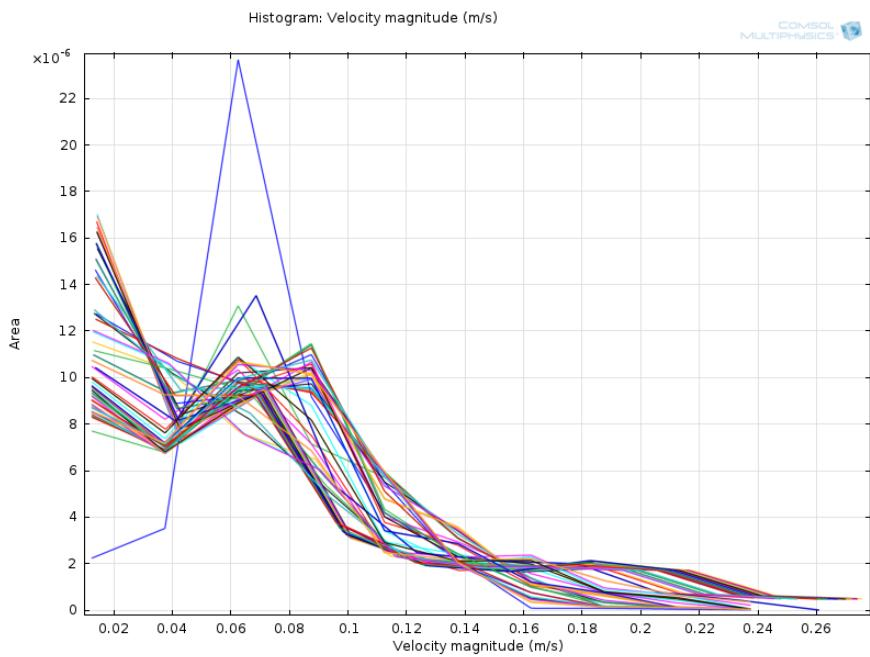

Figure 21-12: A 1D histogram plot. From the COMSOL Multiphysics Model Library: Fluid Valve.
*Model* See Figure 21-12 for an example from the COMSOL Multiphysics Model Library.